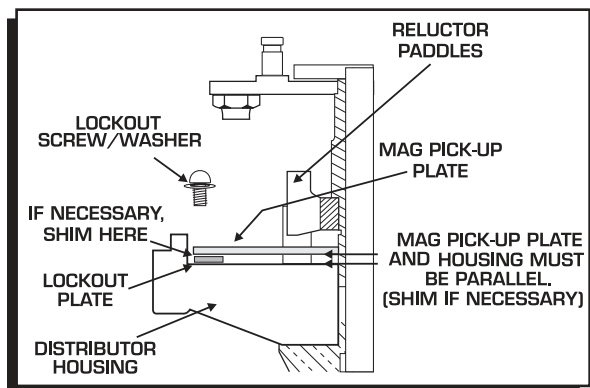

Figure 15 Checking Installation of the Lockout Plate.
6. It is important to make sure the pickup plate is parallel with the housing of the distributor (Figure 15). If it is cocked or slanted, the paddles of the reluctor may contact the pickup. Check the clearance by rotating the distributor shaft. If necessary, use the supplied shims under the Lockout hold-down to correctly position the pickup plate.